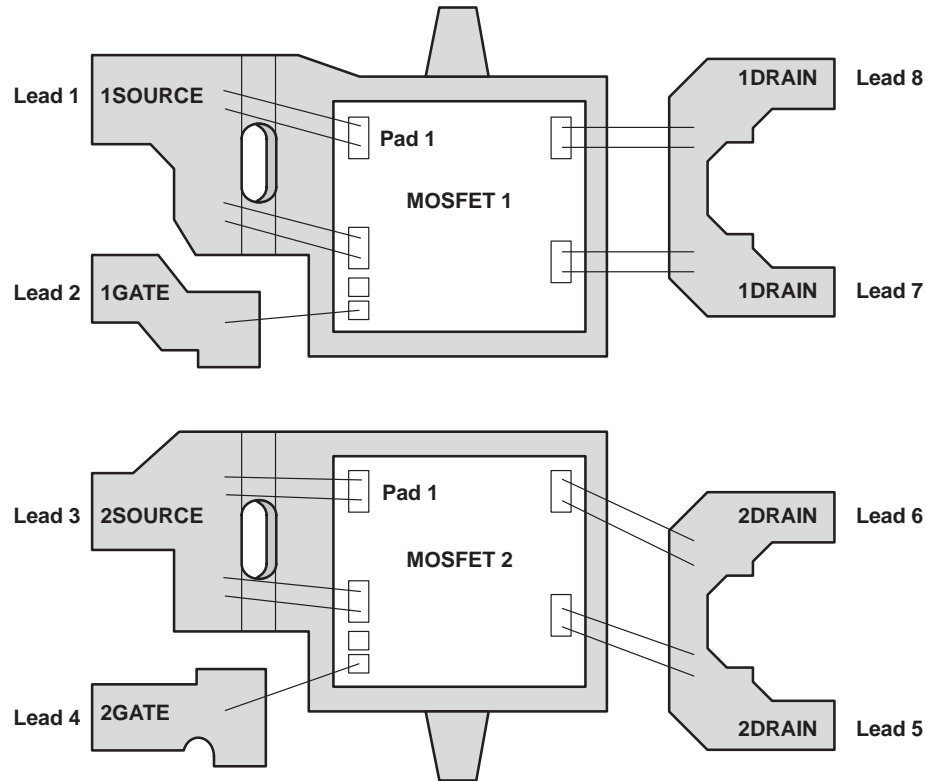

Figure 16. TPS1120 Dual MOSFET SO-8 Lead Frame
Figure 16 illustrates the thermally enhanced (SO) lead frame. Attaching the two MOSFET dies directly to the source terminals allows maximum heat transfer into a power plane.